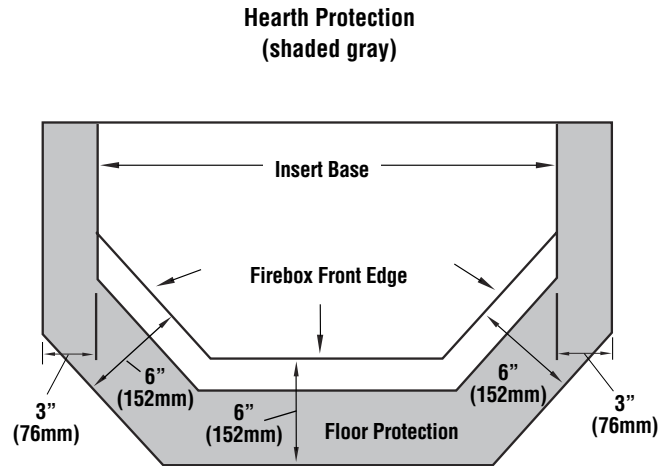

Figure 7
* This fireplace insert can fit into a fireplace with a narrower width in the front (32" min. instead of 36" min.) when the 3" Deep ZC Surround Kit is used (P/N H7232). See Figure 11C on Page 12 for more information. Please take note that because the appliance will be positioned in a more forward position on the existing hearth, additional floor protection may need to be added to the front of the appliance (see Figure 7).
The floor protector must be a non-combustible material extending beneath the insert from the surround panels forward and to the front and sides as shown in **Figure 7**. **Important, if anything other than a masonry hearth is used in the installation you must use the Heat Kit (Cat. No. 79024).**